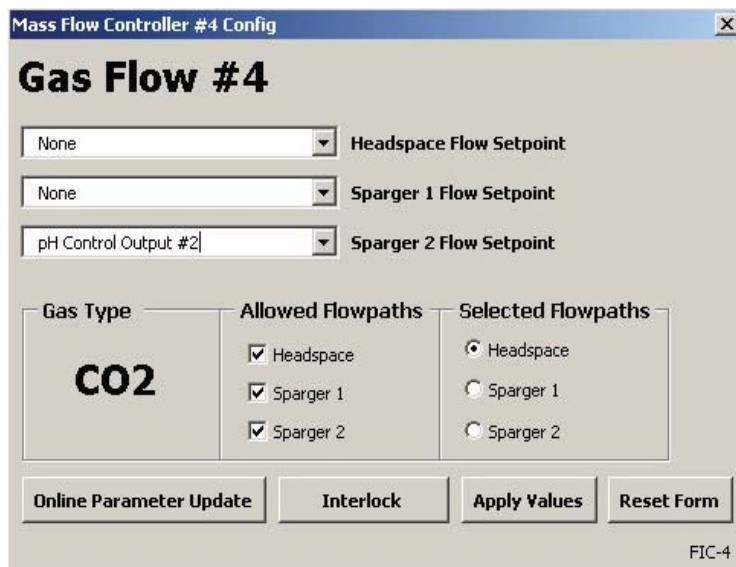

Figure 4.13. MFC Configuration for Control Output #2.
2. Set the appropriate flow setpoint to “pH Control Output #2.” Set the “Allowed Flowpaths” and “Selected Flowpaths” radio buttons to the same output (Figure 4.13). Then click **Apply Values** to save the settings and close the window.